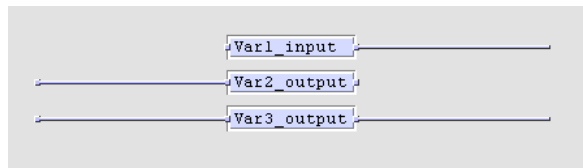

Figure 345: Direction of global variables
- The direction of the variable is determined based on the graphical representation, shown in Figure 345.